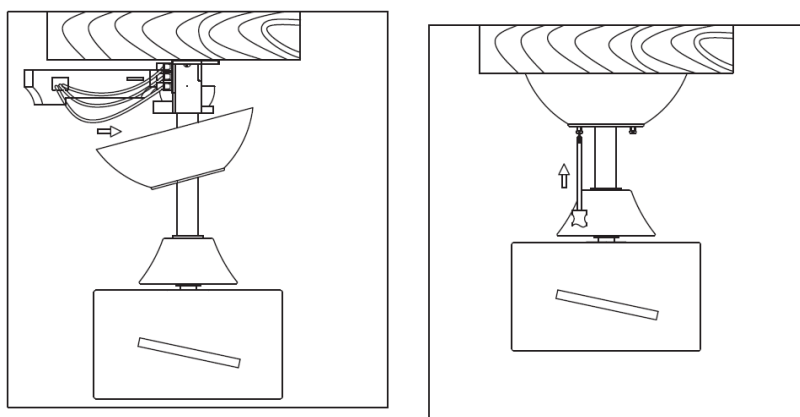

Fig. 10
**FINALISATION DE L'INSTALLATION****INSTALLATION DU CACHE DE FIXATION (Fig.10)**